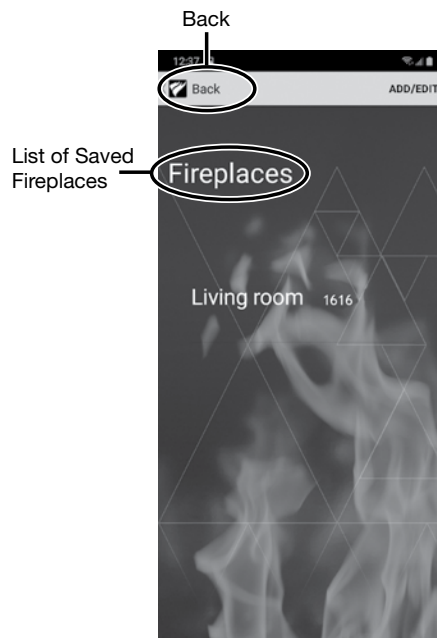

Figure 30: Add - Edit Screen.
7. The fireplace is added to the main screen and Android device is ready to use the app (Figure 30).